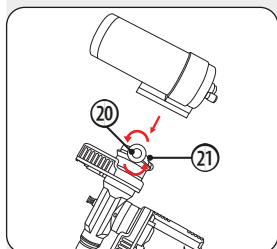

Fig. 14: Attaching the optical tube
7.4. ATTACHING THE OPTICAL TUBE (FIG. 14)
1. Loosen the clamping screw (20) on the dovetail saddle (21) of the mount and unscrew it far enough that it does not obstruct the dovetail saddle. (Fig. 14, I)
3. Tighten the clamping screw (20) until the optical tube is firmly secured in the tube rail and cannot slip out.